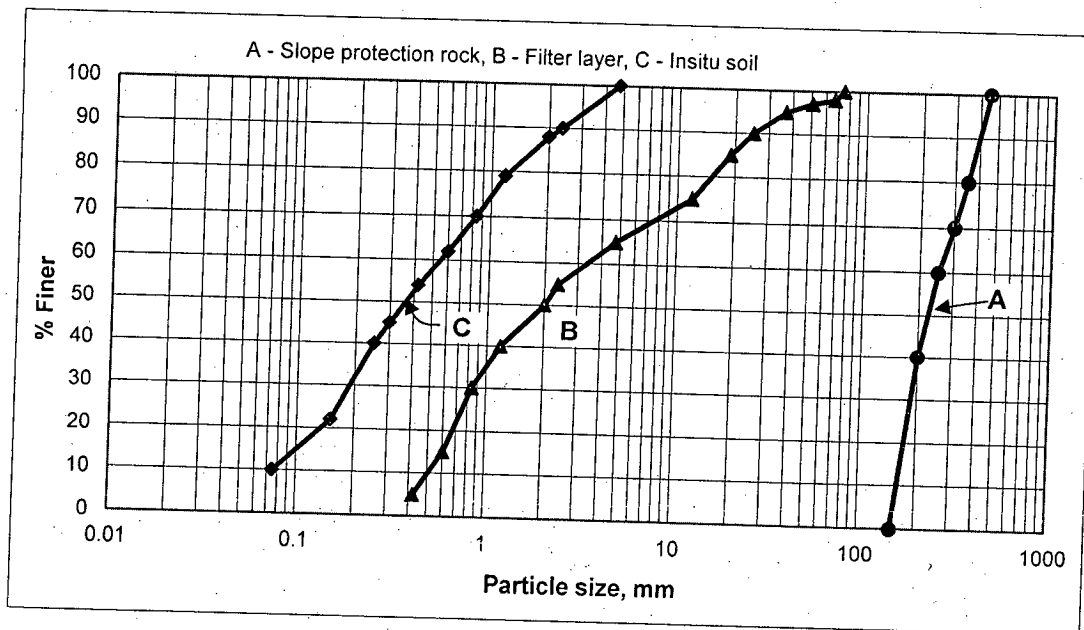

Fig. 1
- (c) Discuss measures, with appropriate sketch, that may be adopted to minimize the adverse effects of water to basements and foundations. Also discuss the ways to make the design of a retaining structure safe and economic in consideration to the water pressure. (9)
6. (a) Draw the cross-section of a river bank slope with revetment work and show its different components. (8)
- (c) What is meant by hydraulic segregation relevant to a hydraulic fill? What measures are taken to avoid hydraulic segregation? (8)
7. (a) Discuss two methods of ground improvement for hydraulic fills with clean sand. (8)
- (c) State factors that given the selection of an appropriate method for a hydraulic fill. (8)
8. (a) Differentiate between permittivity and transmissivity properties of geotextile. (8)
- (c) Revetment work is to be done on a river bank with cement concrete (CC) blocks. It is considered that a two stage granular filter: a sand layer and a coarse aggregate layer will be provided beneath the CC blocks for protection of the in-situ soil. (8)
- Fig. 1 shows the diagram curves of proposed materials for sand layer and coarse aggregate layer along with that of in-situ soil. Analyze and comment on the suitability of the proposed sand and coarse aggregates as filter layer.
1. (a) A 375-ft-long concrete, box-girder bridge on four supports - two abutments and two symmetrically located bents, is shown in Fig. 1(b). The cross-sectional area of the bridge deck is 123 ft^2 . The weight of the bridge is idealized as lumped at the deck level; the unit weight of concrete is 150 lb/ft^3 . The weight of the bents may be neglected. Each bent consists of three 25-ft-tall columns of rectangular cross section with $I_y' = 12 \text{ ft}^4$ and $I_z' = 14 \text{ ft}^4$ (Fig. 1(a)). Determine the natural frequency of the bridge in the longitudinal and transverse directions. The elastic modulus of concrete is $E = 3000 \text{ ksi}$. Consider the deck to be rigid ($EI = \infty$) and the columns to be clamped at the footings. (15)